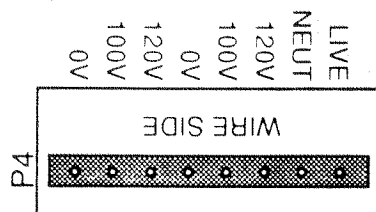

Figure 1.4 Silkscreening on Printed Circuit Board
- Neither the multi-pin "voltage select" connector or the silkscreening on the board are numbered. The silkscreening on the board indicates the voltage of each connection. (See Fig. 1.4)